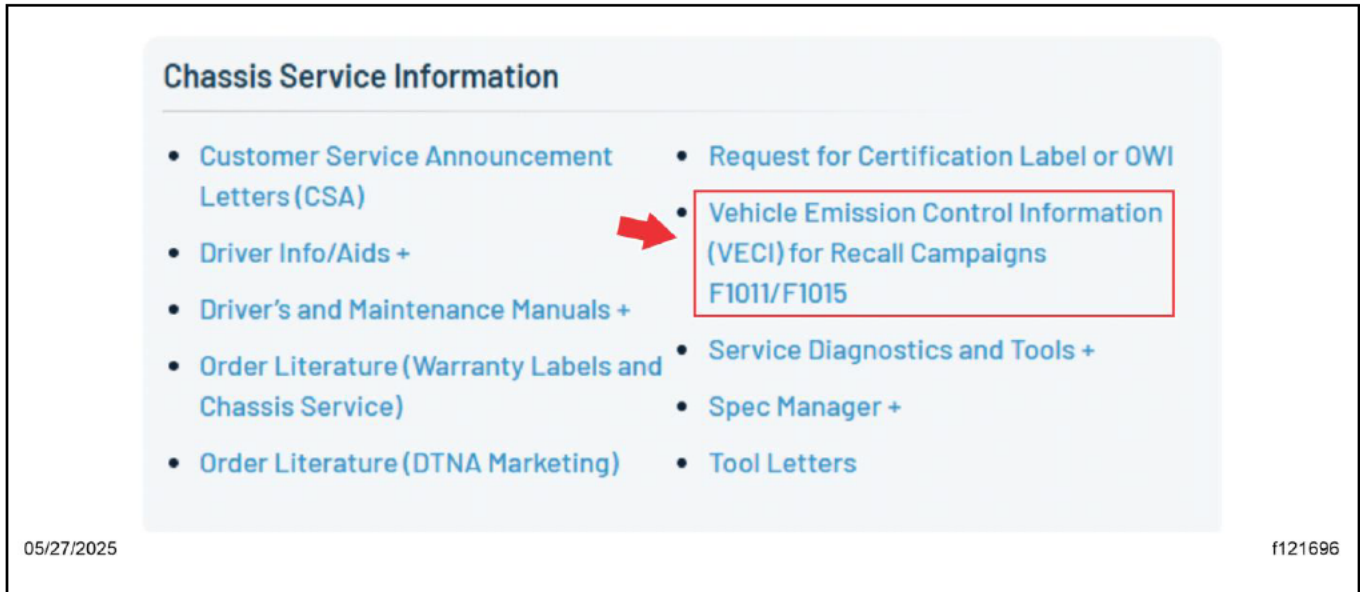

Fig. 3, Chassis Service Information Panel
3. Within the 'Chassis Service Information' panel, select the option 'Vehicle Emission Control Information (VECI) for Recall Campaigns F1011/F1015.' This redirects to an external website. See Fig. 3.